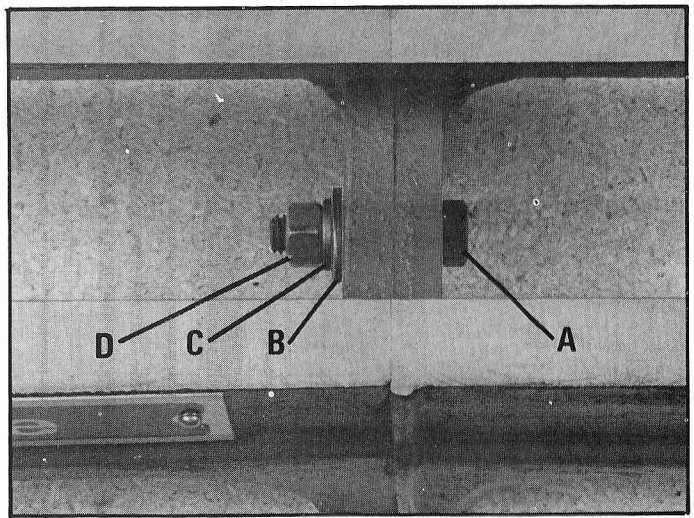

Fig. 28
2. Remove hex nut (D), lockwasher (C), flat washer (B) and bolt (A) Fig. 28, that fasten the two sections of the lathe bed together.